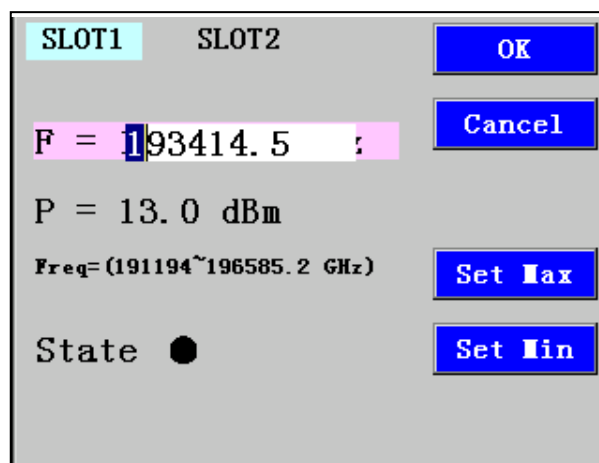

Figure 6 Screen of editing a parameter
- 2 The first digit of setting value will be highlighted first, as shown in Figure 6.